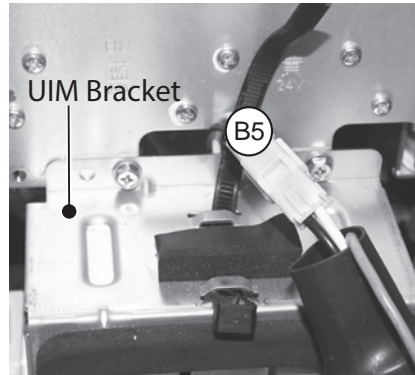

Figure 51 - Wiring harness "B5" location
- 15** Disconnect wiring harness B5. Reference Figure 51 for location.